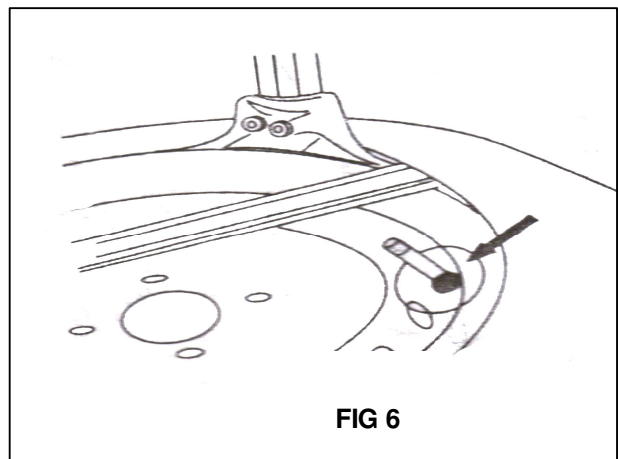

FIG 6
3.1.4 Use the lever to detach until the lip to the hump of the mounting tool (FIG 6). Step the turntable pedal (FIG 2-11) to rotate the turntable clockwise until the entire lip completely detached. If handling the tube tire, to avoid the damage on the tube, you should keep the nozzle of the tire 10cm from the right side of the mounting tool when demounting.